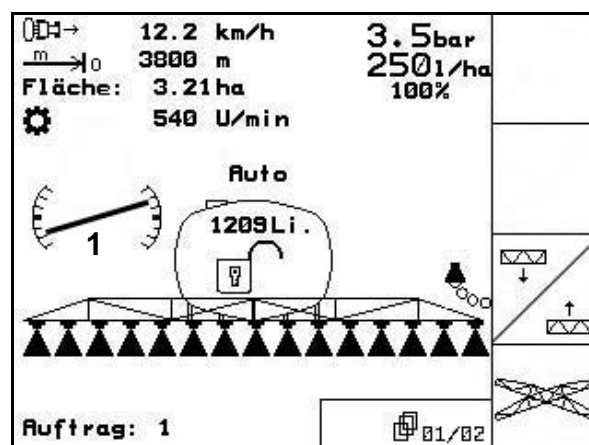

Fig. 142
- In the operational menu the symbol tilt adjustment (Fig. 142/1) shows the mirrored sprayer boom tilting. Now the right hand side sprayer boom is lifted.